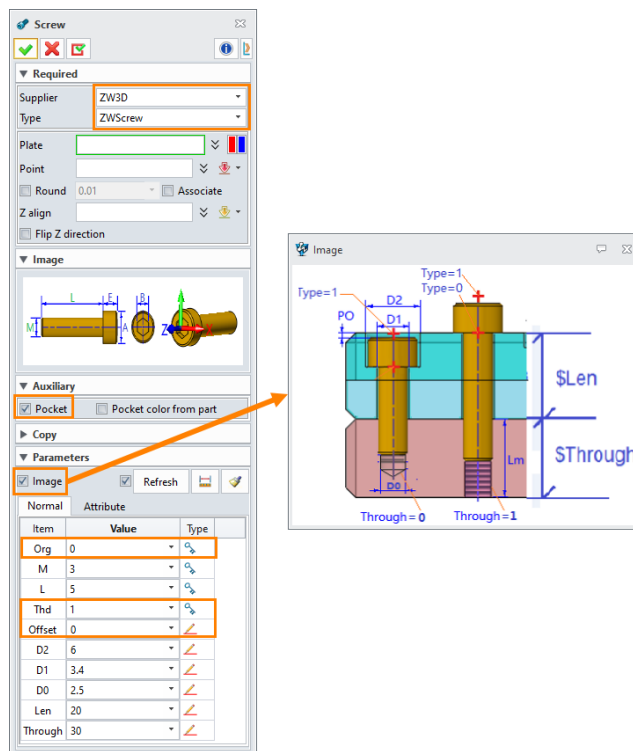

Figure 54 Reuse Mold Library
**STEP 02** Select **ZW3D** as the Supplier and **ZWScrew** as the Type, then determine the parameters and choose the insertion plate and point as shown in Figure 54.